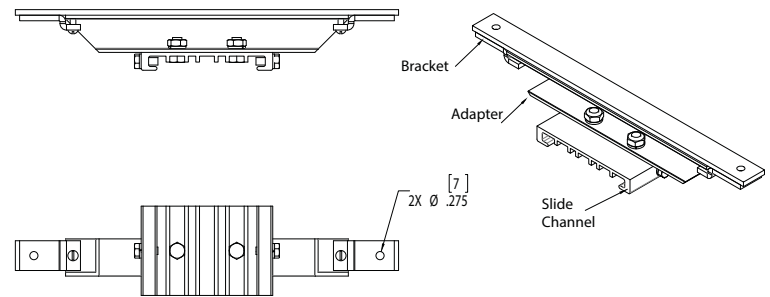

Figure 7. MP1054MTK Kit MagnaPro Mount Kit Details
5. Install one (1) channel adaptor with slide channel onto each MP1054MTK bracket. Slide the long edge of the channel adaptor into the slots on the bracket and tighten the two (2) Phillips head screws on the ends of each MP1054MTK Kit bracket. Make sure the slide brackets are parallel to each other (see Figure 7).
6. Fixture is now ready for mounting. It is strongly suggested to use two (2) qualified tradespeople to proceed with the final mounting of the fixture. This is recommended to avoid any personal injury or damage to the fixture.
8. Tighten the two (2) 1/4" set screws on each slide bracket until they bottom (see Figure 7). Torque to 78 in.-lbs. (8.8 N-m).